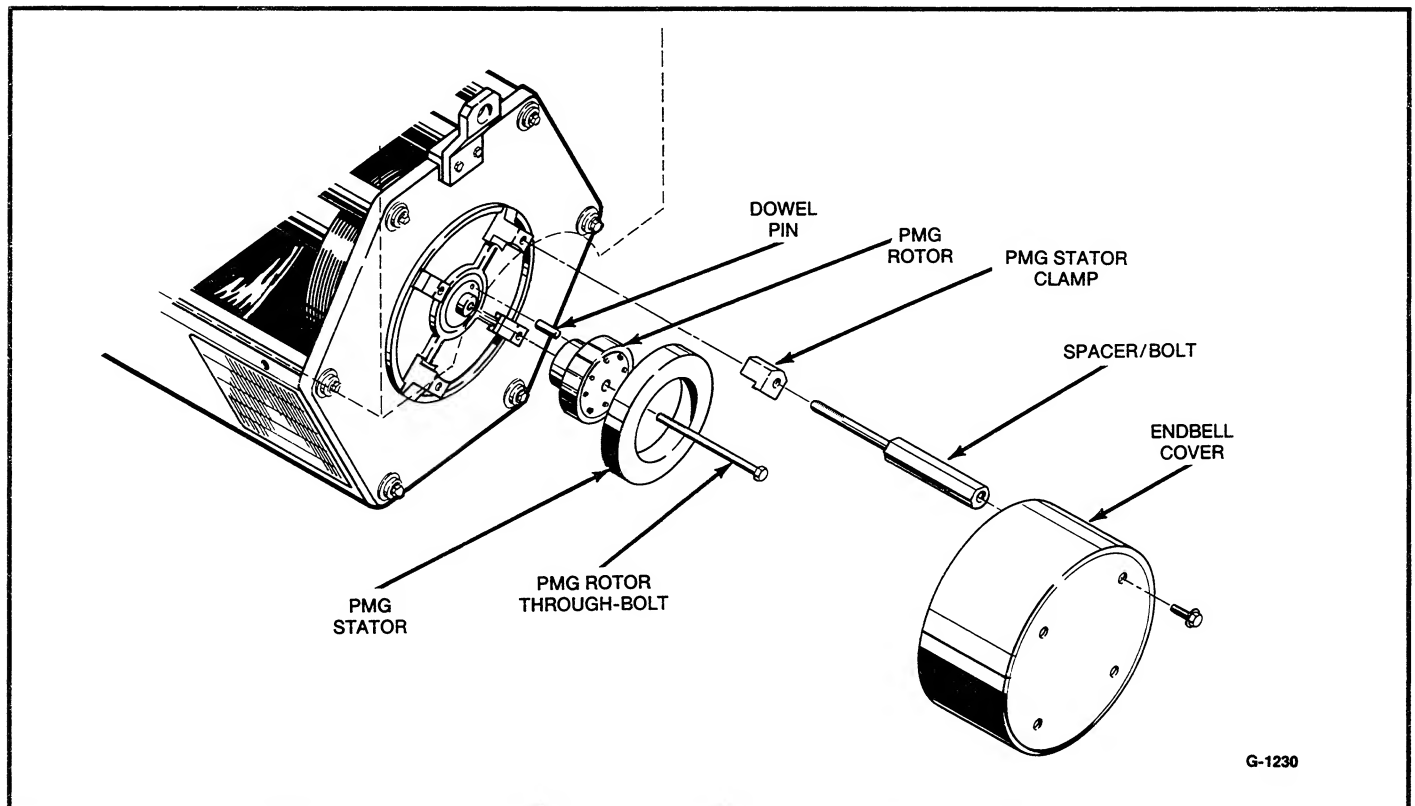

FIGURE 6-1. PERMANENT MAGNET EXCITER REMOVAL
2. Remove the endbell cover and conduit box access covers (see Figure 6-1).
Refer to Figure 6-1 when assembling permanent exciter parts to generator and PMG voltage regulator installation diagram in section 7.